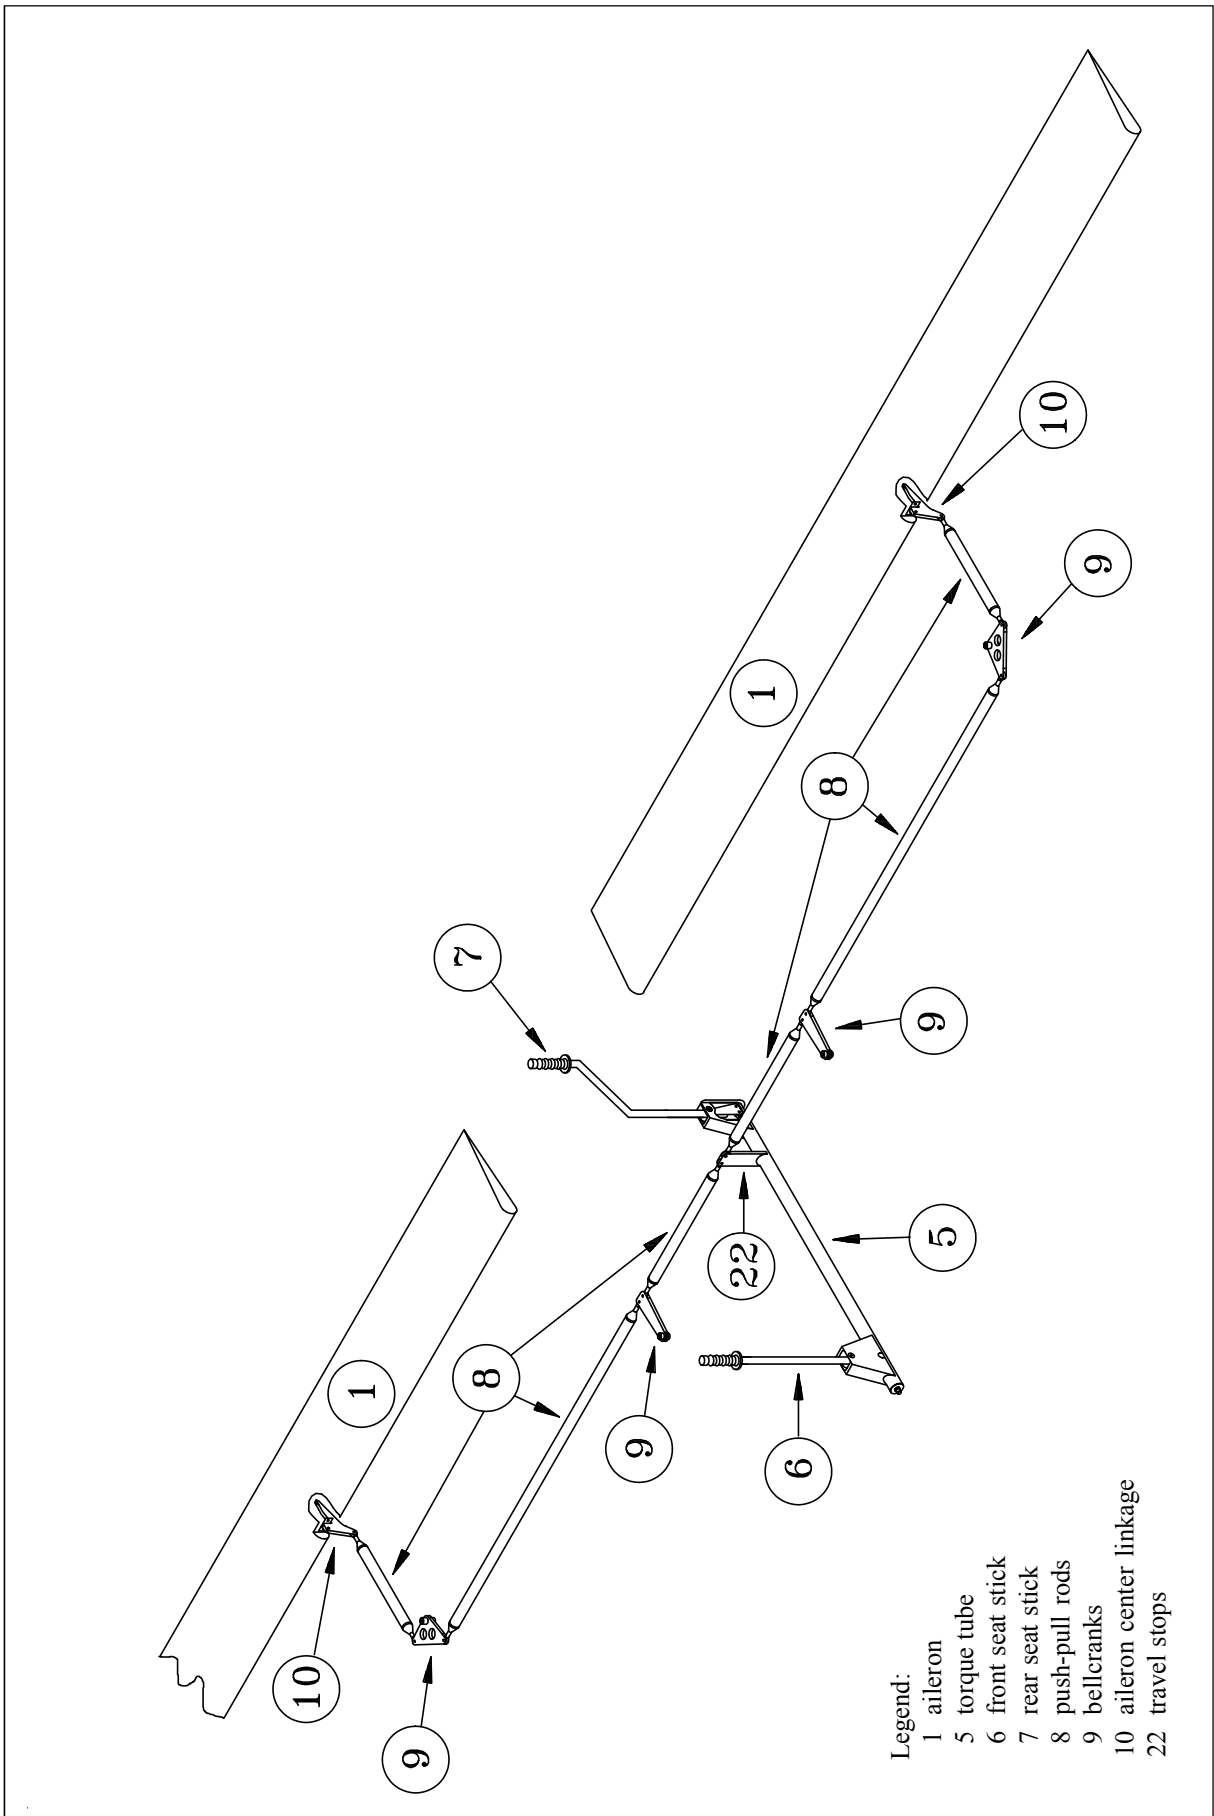

Figure 10
(Refer to Figure 10) The aileron (1) is direct mechanical linked to the control sticks (6, 7) by the aileron center linkage (10) with spade arm, push-pull rods (8), bellcranks (9) and the torque tube (5). The bell cranks have two sealed ball bearings. Each aileron is mounted at three points in spherical bearings pressed into aluminium hinge arms. For lightning protection reason each hinge arm is grounded to the corresponding attachment bracket at the aileron by bonding leads. The rod end bearings of the push-pull rods located in the wing are also interconnected by bonding leads. The travel stops (22) are located at the torque tube next to the rear control stick (7).